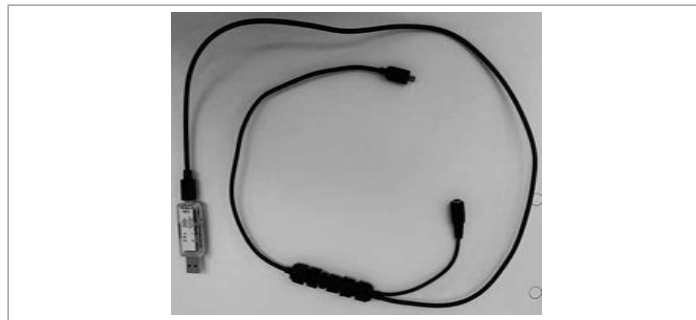

Fig. 4: Assembled parts of the USB-büS-interface set with article number 00772551
- Assemble the parts of the USB-büS-interface set. Refer to Fig. 4.